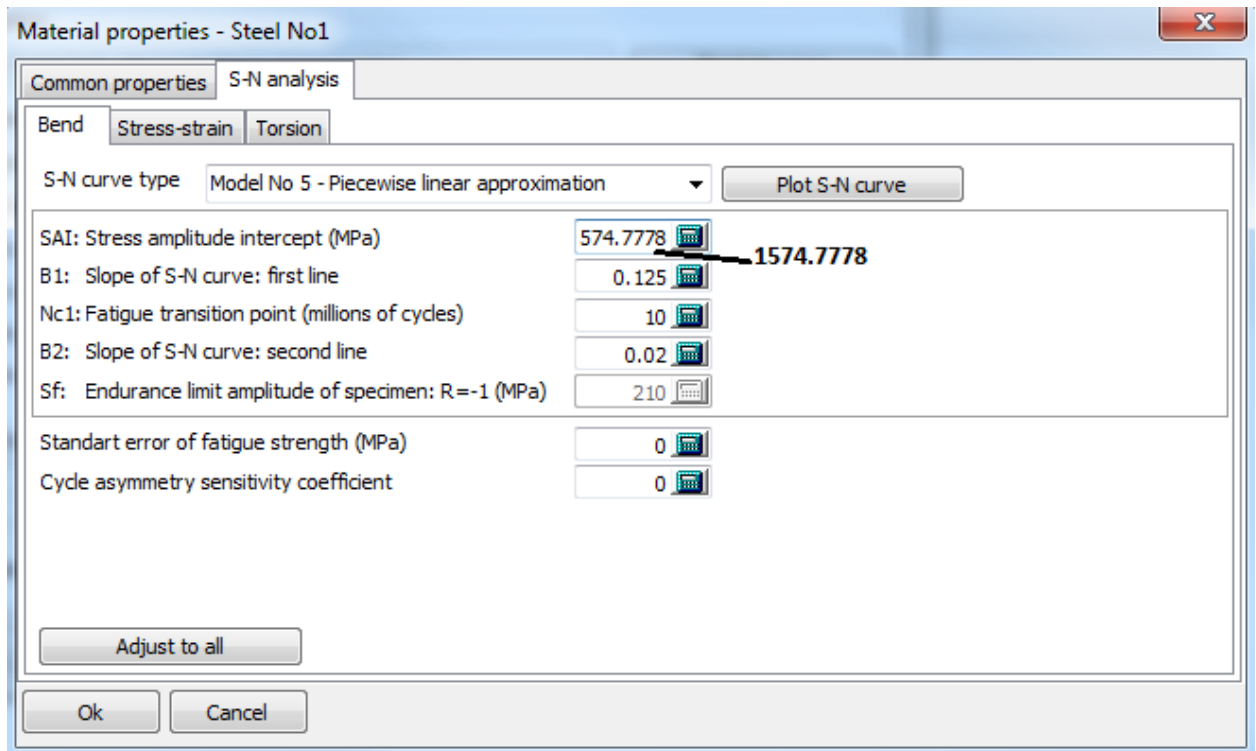

Figure 2.31. Material properties initialization: fatigue resistance
9. Set **S-N curve type** to **Model No 5** and set material properties as it is shown in Figure 2.31.